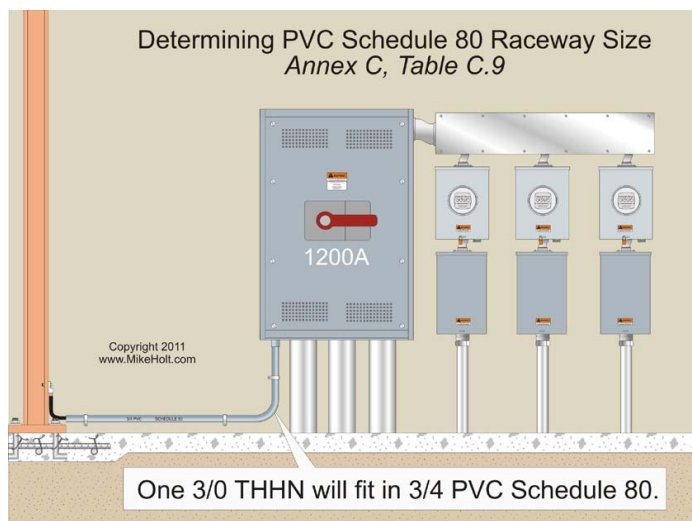

Figure 5-7
**Question:** What's the smallest trade size PVC Schedule 80 raceway that can be used for the installation of a single 3/0 THHN as a grounding electrode conductor? **Figure 5-7**